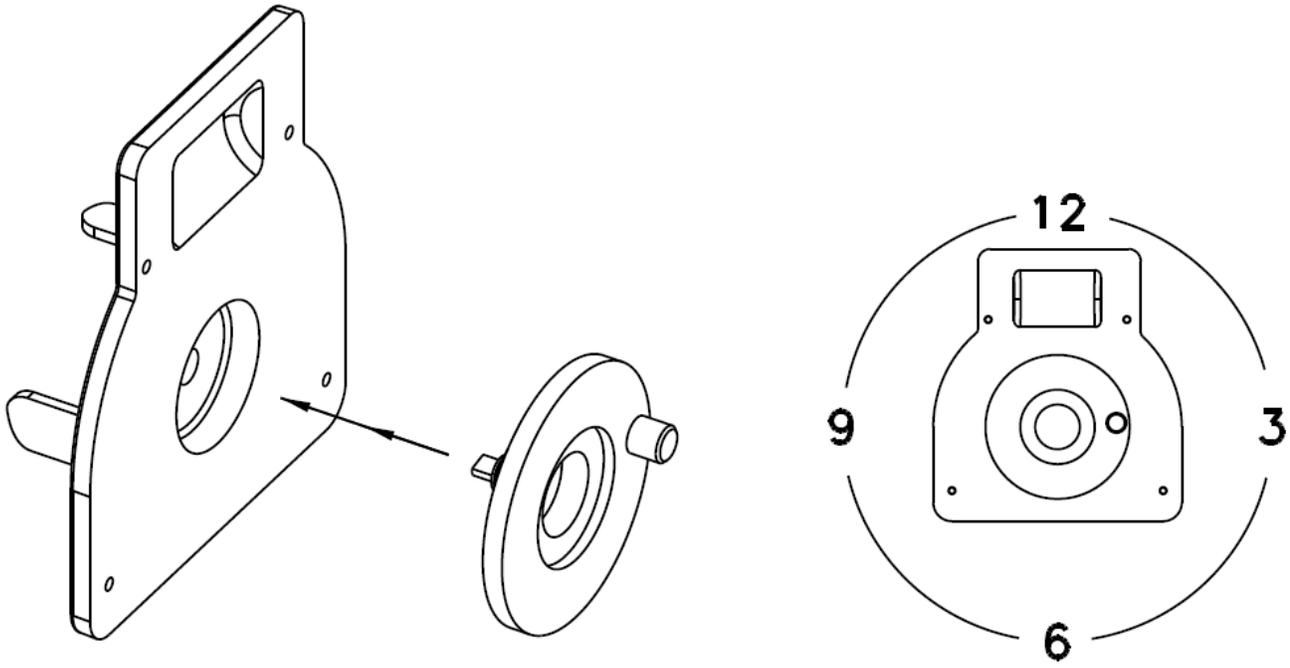

Fig. 2
14. Reinstall the sensor actuator shaft (Item #5) to the gearcase cover (Item #4) by positioning the two parts relative to each other as shown in Fig. 2. With the sensor actuator shaft pin at the 3 o'clock position and the worm gear pocket of the gearcase cover at the 12 o'clock position press them together. The parts may stay together, if not, hold them together and go on to step 14.